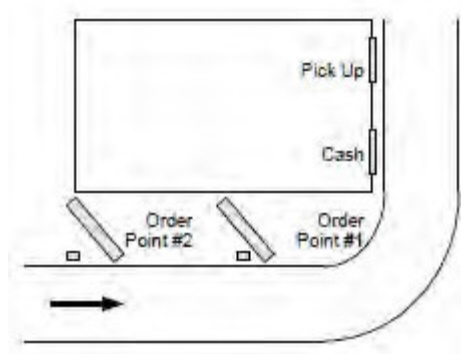

Figure 2.
- A *Tandem Drive-Thru* (see Figure 2) is comprised of a single lane of traffic with two order points (one in front of the other) and one or two drive-thru windows for payment and pick up.